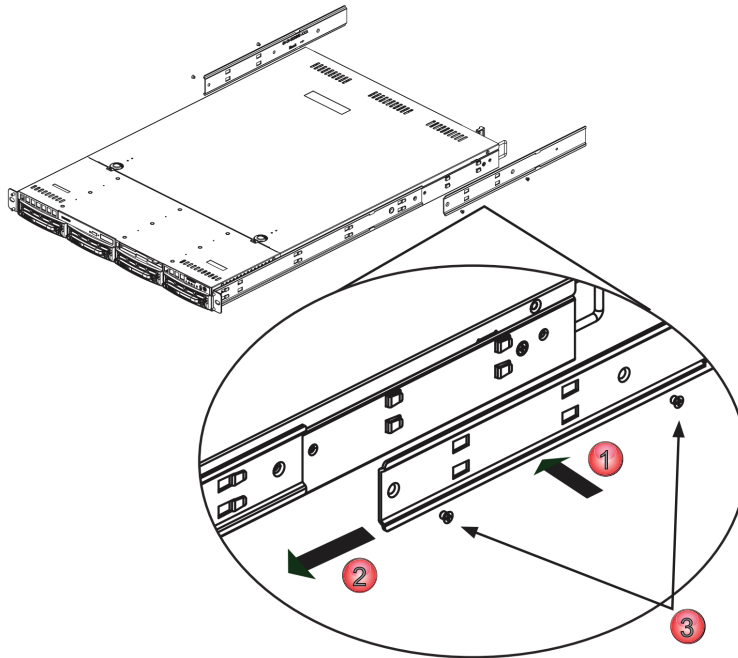

Figure 4-2: Identifying Rack Rail Sections
1. Place the inner rail extensions on the side of the chassis aligning the hooks of the chassis with the inner rail extension holes, Figure 4-2. Make sure the inner rail extension faces “outward” just like the pre-attached inner rail.